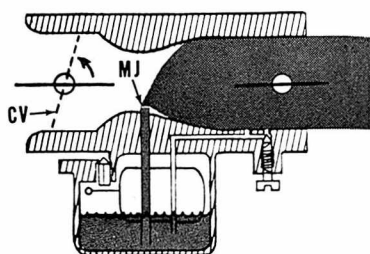

Fig. 1-14—As choke valve (CV) is closed as shown by the broken lines, vacuum is increased at main jet (MJ).
**CHOKE PLATE.** Fig. 1-14 shows a typical choke plate installation in relation to the carburetor venturi.
At cranking speeds, air flows through the carburetor venturi at a slow speed; thus, the pressure in the venturi does not usually decrease to the extent that atmospheric pressure on the fuel will force enough fuel from the nozzle. If the choke plate is closed as shown by the broken line in Fig. 1-14, air cannot enter into the carburetor and pressure in the carburetor decreases greatly as the engine is turned at cranking speed. Fuel is then forced from the fuel nozzle. In manufacturing the carburetor choke plate or disc, a small hole or notch is cut in the plate so that some air can flow through the plate when it is in closed position to provide air for the starting fuel-air mixture. In some instances after starting a cold engine, it is advantageous to leave the choke plate in a partly closed position as